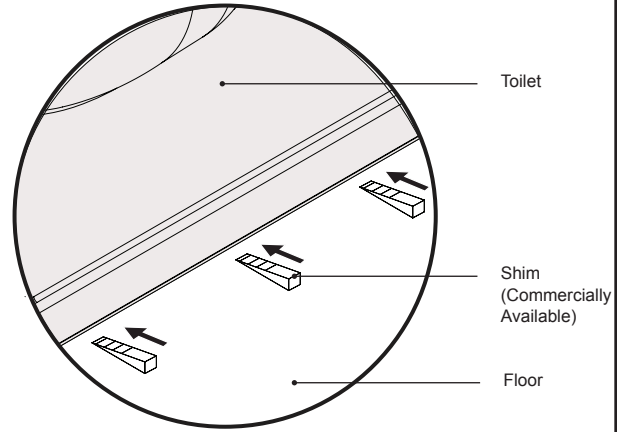

Figure 13
- 3 Slide a shim between the toilet and the floor. Use a hammer to gently force into place (Figure 13).